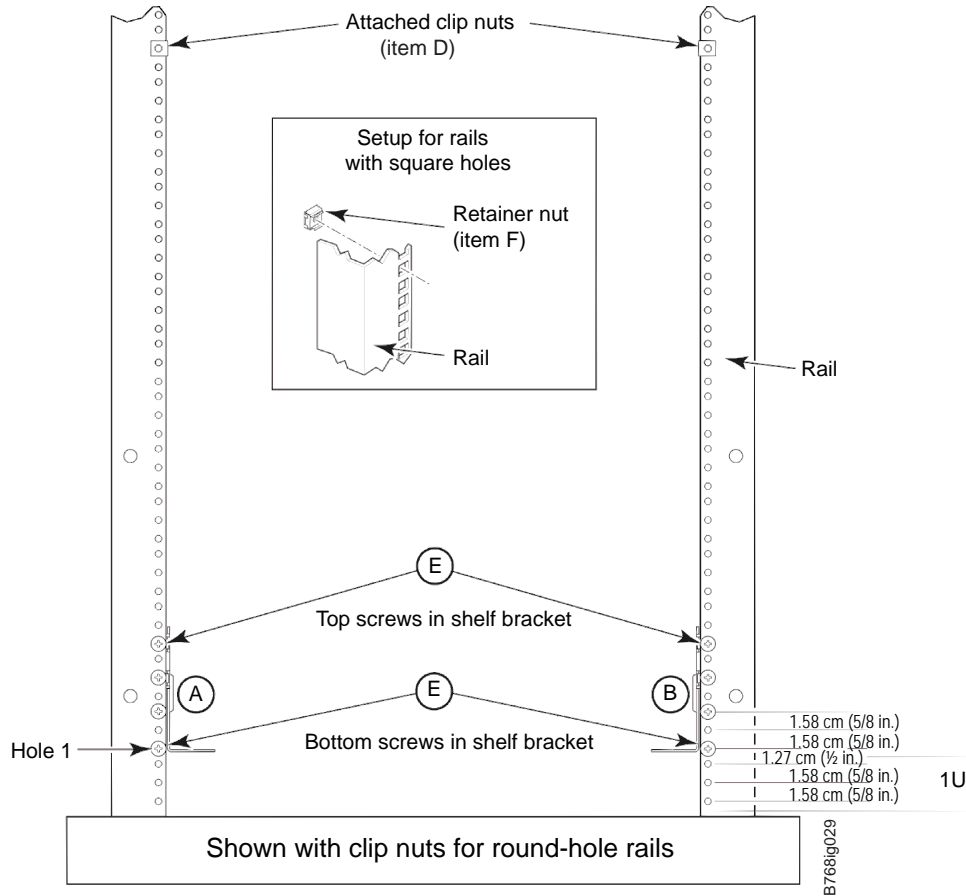
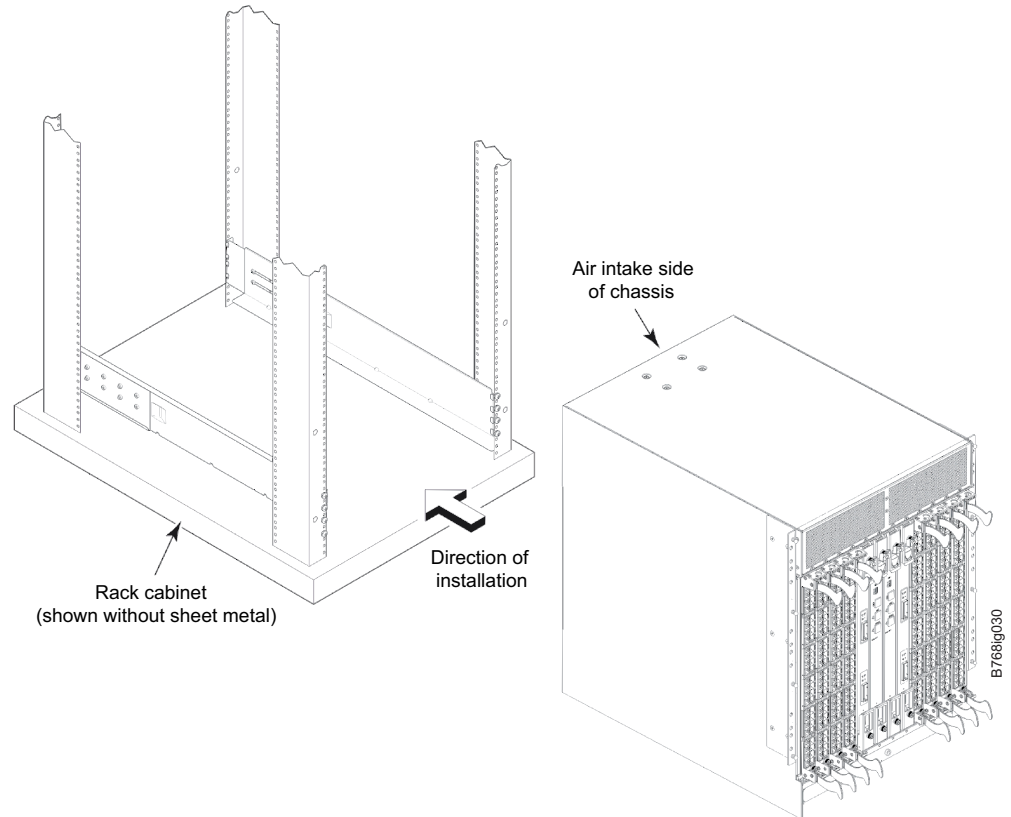

Figure 5. Installing clip or retainer nuts on the vertical cabinet rails
Figure 6. Chassis installation from rear (exhaust aisle side) of the cabinet
- Attach the clip nuts **D** (for rails with round holes) or retainer nuts **F** (for rails with square holes) to the vertical rails on the exhaust aisle side of the cabinet (see Figure 5). These nuts are used for securing the port side of the chassis to the rack rails using 10-32 x 5/8-inch screws. Use three nuts on each rail. Place the nuts in optimum locations for securing the chassis to the rails. See Figure 6 on page 19 for approximate positions.
7. Move the lift tool to a position near the rear of the cabinet. See Figure 6 on page 19.